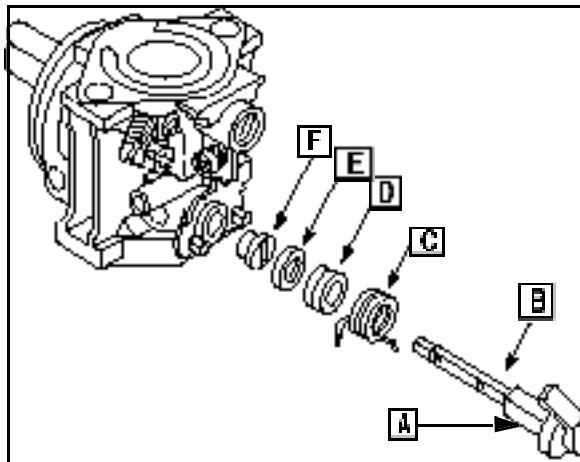

Fig. 60
6. Install upper retainer (A) to the choke shaft ([B] Fig. 60).
7. Install spring (C), washer (D), seal (E) and lower retainer (F) to choke shaft (B). Insert shaft into carburetor body ([G] Fig. 60).